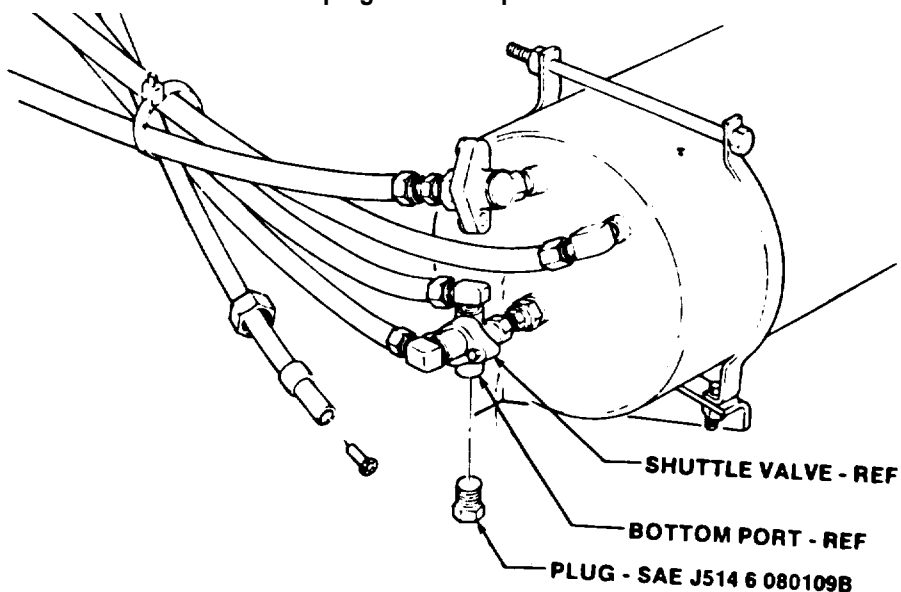

FIGURE 3
(5) Install SAE J514 6080109B plug in bottom port of shuttle valve as shown in figure 3.